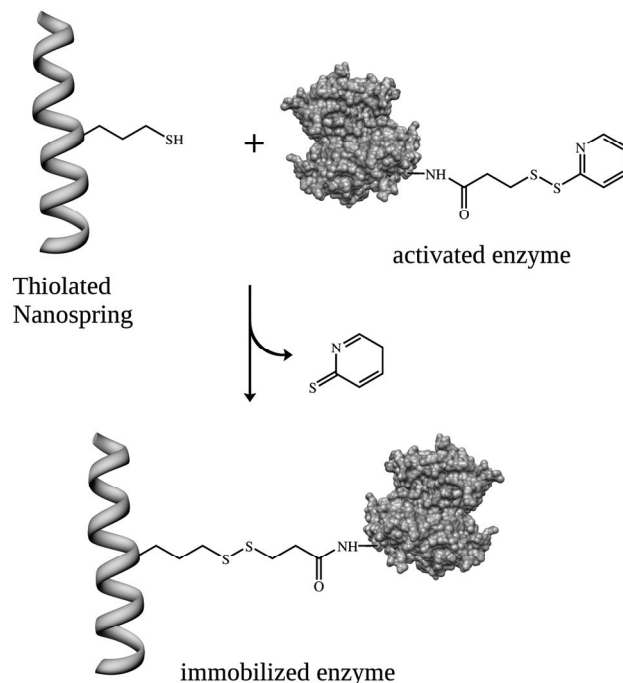

Figure 3. Attachment of modified enzyme to Nanosprings.
- Apply the SPDP-modified enzyme by slowly pumping it through the reactor (suggested flow rate: 0.1 mL/min). This allows the crosslinker on the enzyme to react with the free sulfhydryls on the Nanospring surface, resulting in a covalently attached enzyme (Fig 3). To quantify enzyme loading, aliquots of the enzyme solution can be taken before and after passing through the reactor.